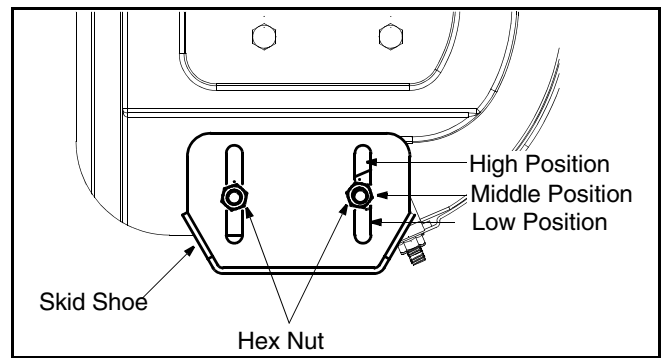

Figure 4
For close snow removal, place skid shoes in the low position. When the area to be cleared is uneven, place skid shoes in the middle or high position. See Figure 4.
- Adjust skid shoes by loosening two hex nuts and carriage bolts on each skid shoe, and moving the skid shoe to the desired position. See Figure 4.